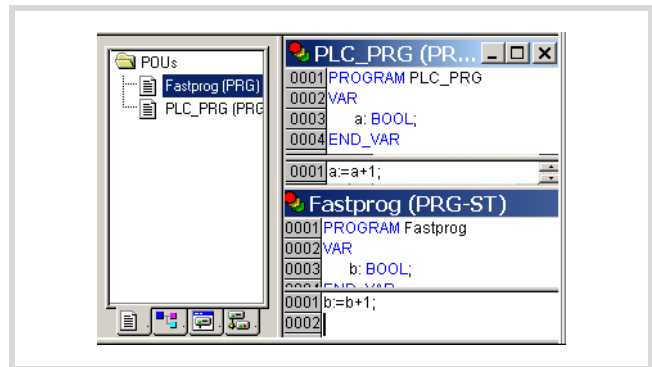

Figure 28: Writing a program
- ▶ Create the POU's "PLC\_PRG" and "Fastprog" as shown in figure 28.